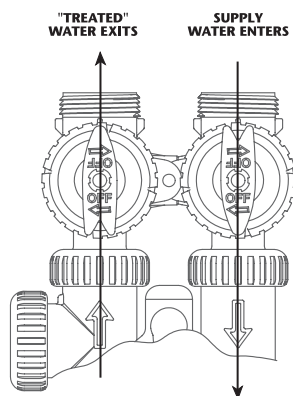

FIGURE 1
1. **NORMAL OPERATION POSITION:** The inlet and outlet handles point in the direction of flow indicated by the engraved arrows on the control valve. Water flows through the control valve for normal operation of a water softener or filter. During the regeneration cycle this position provides regeneration water to the unit, while also providing untreated water to the distribution system (**Fig. 1**).